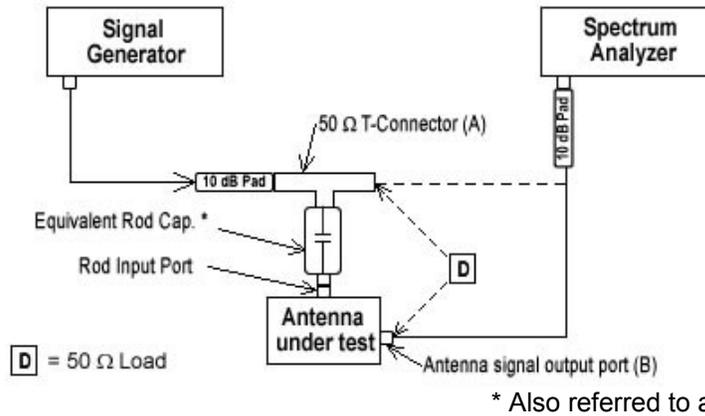

Figure 3
Connect the tracking generator to the spectrum analyzer as shown in Figure 3 and the 50  $\Omega$  load connected to the antenna signal output port (B).
Connect the tracking generator cable to the fixture terminated with 50  $\Omega$  (A) and connect the spectrum analyzer cable to the signal output port (B) per Figure 3.
The antenna factor for the rod antenna shall be determined by measuring the signal transfer characteristics of the matching device and assuming that the antenna is a short monopole with an infinite ground plane. Set up the monopole to be calibrated and the test equipment per Figure 3. Allow all equipment to warm up for 15 minutes.